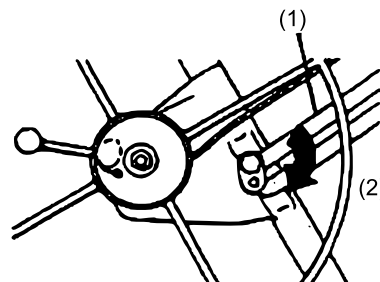

Figure 5
5. Press the winch assembly slightly back toward the frame. This automatically engages the slide bar lock to keep the winch fully extended (Fig. 5).